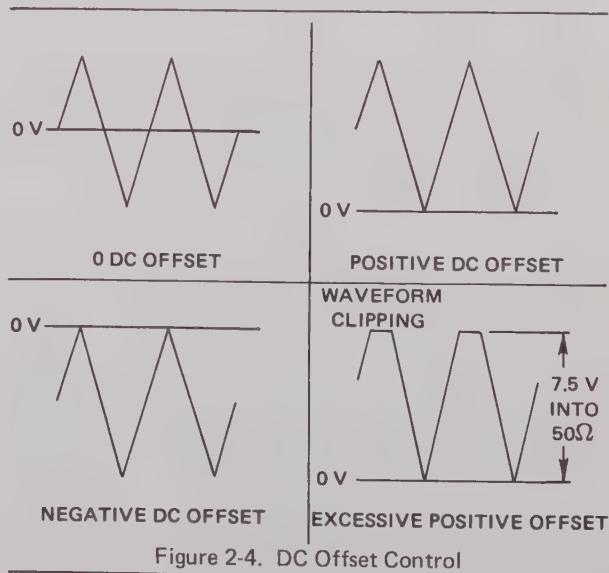

Figure 2-4. DC Offset Control
7. To add dc offset, first set the DC OFFSET control for the polarity of dc offset desired. Next, change the WAVEFORM switch to DC position and, using the readout display, adjust the DC OFFSET VARIABLE control until the desired amount is read on the display. Return the WAVEFORM switch to the selected waveform position. If an excessive amount of dc offset is used, waveform clipping may be observed. The sum of peak waveform voltage and the dc offset cannot exceed the maximum rated output of the generator. For example, on the 0 dB attenuator setting, the maximum output is 15 V peak to peak or 7.5 V peak above and below zero volts. Therefore, offset plus the peak voltage cannot exceed 7.5 V peak. See Figure 2-4.